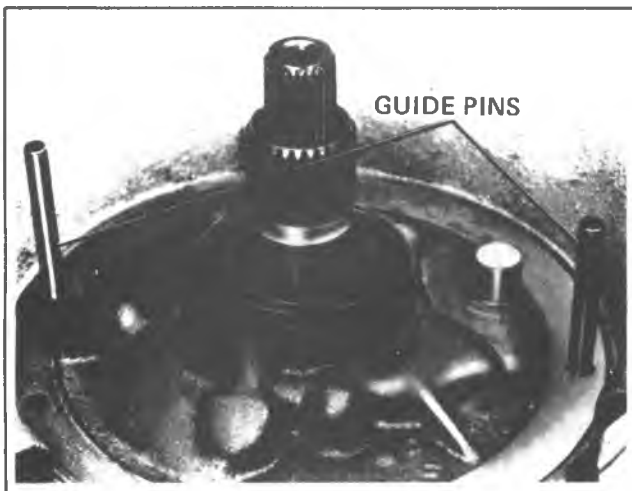

Fig. 7A-138A-Installing Pump Assembly
8. If removed, install 3 new oil seal rings, making sure cut ends are assembled in the same relationship as cut (Fig. 7A-120A). Also, make sure rings are seated in the grooves to prevent damage to the rings during reassembly of mating part over rings. Retain with petrolatum.